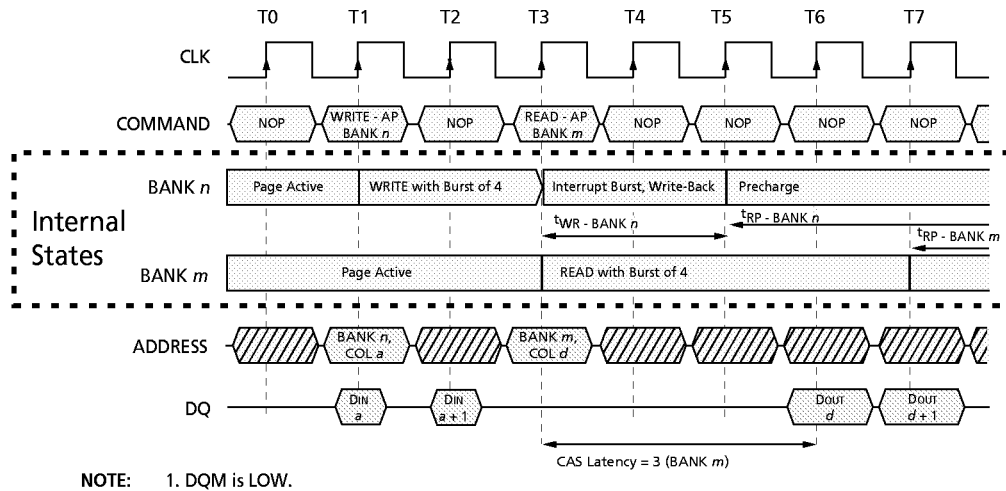

Figure 26
- Interrupted by a READ (with or without auto precharge): A READ to bank *m* will interrupt a WRITE on bank *n* when registered, with the data-out appearing CAS latency later. The PRECHARGE to bank *n* will begin after ^tWR is met, where ^tWR begins when the READ to bank *m* is registered. The last valid WRITE to bank *n* will be data-in registered one clock prior to the READ to bank *m* (Figure 26).